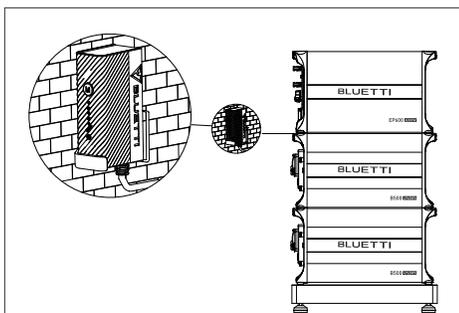
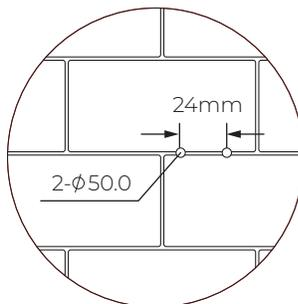

Fig. 3-14-1
Fig. 3-14-2
- a. Drill 2 pilot holes in the wall. Please refer to the drill position and hole size shown in fig. 3-14-1 and fig. 3-14-2. The depth of hole is 26mm.